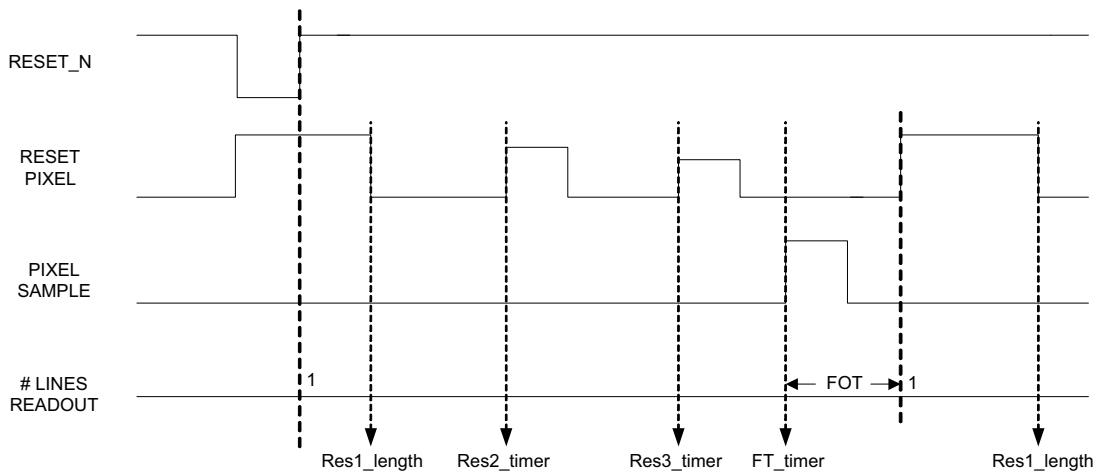
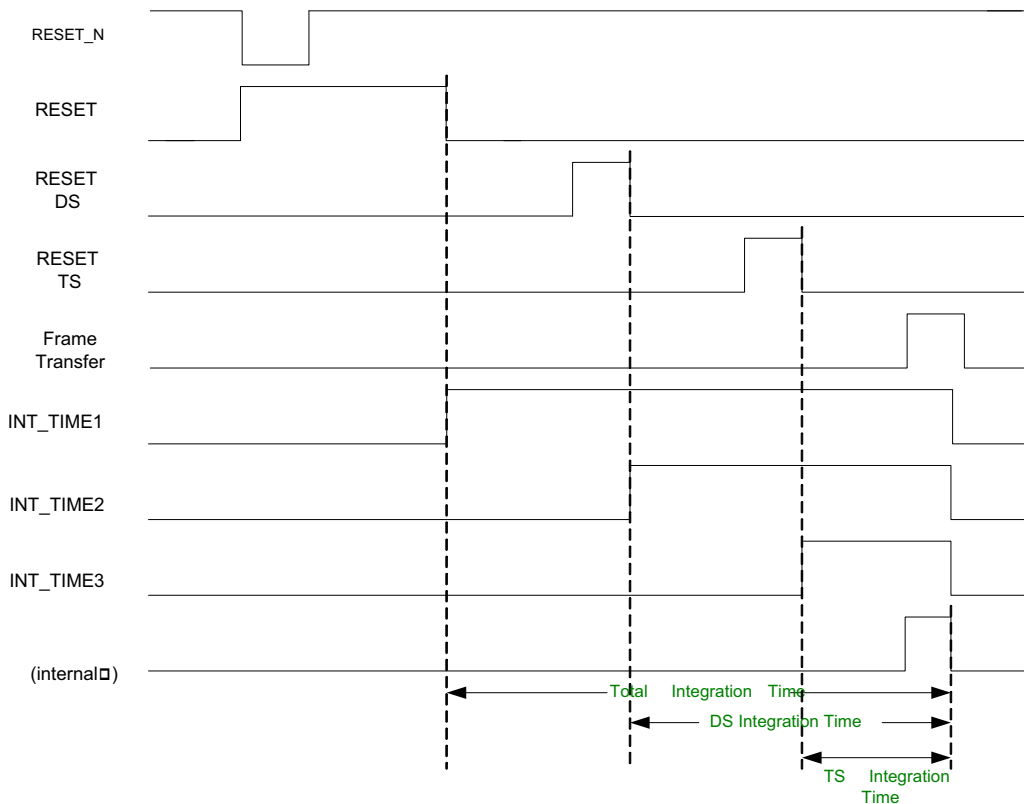

Figure 15. Integration Timing in Master Mode
Figure 16. INT_TIME Timing
In mastermode the integration time, the dual slope (DS) integration time, and triple slope (TS) integration time are set by the SPI settings. Figure 15 shows the integration timing and the relationship with the SPI registers. The timing concerning integration is expressed in number of lines read out. The timing is controlled by four SPI registers which need to be uploaded with the desired number of lines. This number is then compared with the line counter that keeps track of the number of lines that is read out.
The length of the integration time, the DS integration time and the TS integration time are indicated by 3 output pins: INT_TIME_1, INT_TIME_2 and INT_TIME_3. These outputs are high during the actual integration time. This is from the falling edge of the corresponding reset pulse to the falling edge of the internal pixel sample. Figure 16 illustrates this. The internal pixel sample rises at the moment defined by FT_TIMER (see Figure 15) and the length of the pulse is $4 * (12 * (GRAN < 1:0 > + 1) + 2)$.